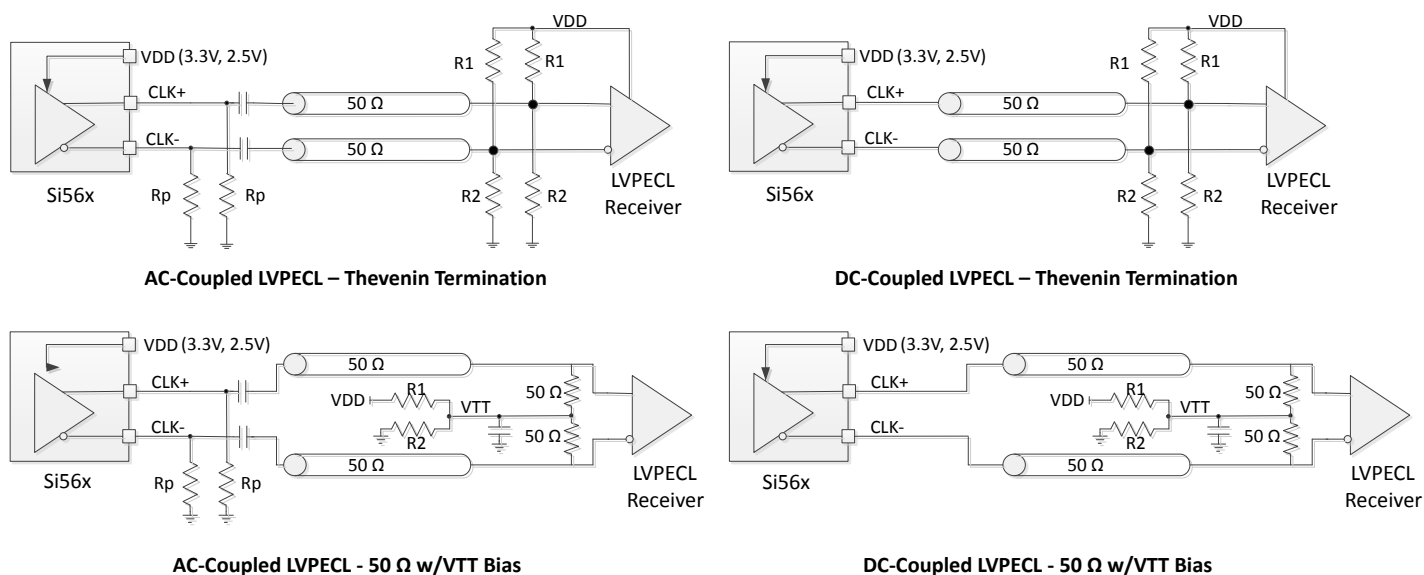

Figure 4.1. LVPECL Output Terminations
3. Rterm = 50 Ω to VDD - 2.0 V (see Figure 4.1).